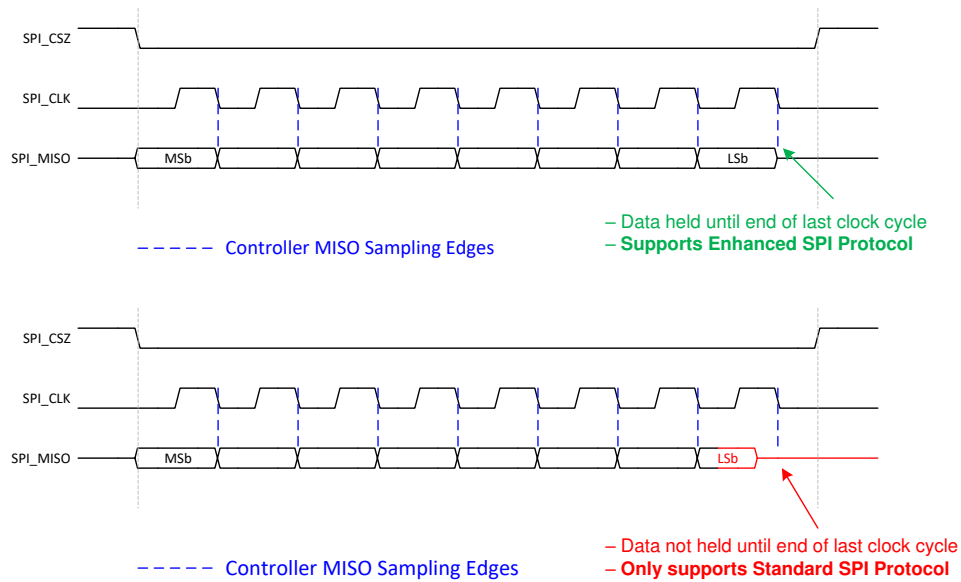

Figure 6-16. Requirement for Enhanced SPI Protocol
- (2) In most SPI applications, one clock edge is used by both master and slave devices for transmitting data while the other edge is used by both for sampling received data. This is referred to as *Standard SPI Protocol*. To maximize the SPI_CLK frequency potential, SPI masters can alternatively be designed to sample the data in (MISO) bit on the same clock edge used to transmit the next data out (MOSI) bit. This is referred to as *Enhanced SPI Protocol*. The DLPC6540 SPI master implementation supports both protocols (part of SPI interface configuration), however, to be able to use the "Enhanced SPI Protocol", the slave device must meet the requirement shown in Figure 6-16.